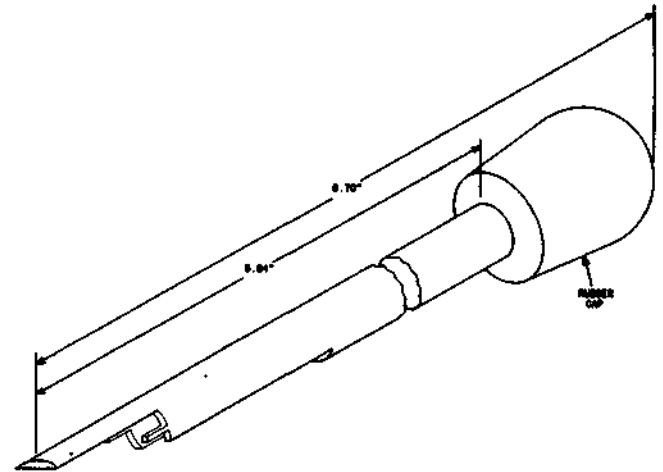

Fig. 20—963A Insertion Tool
2.22 **963A:** The 963A insertion tool (Fig. 20) is used for inserting straight-type spade lug receptacles such as AMP[®] 250 series FASTON[®] onto 221B and 221C terminals.